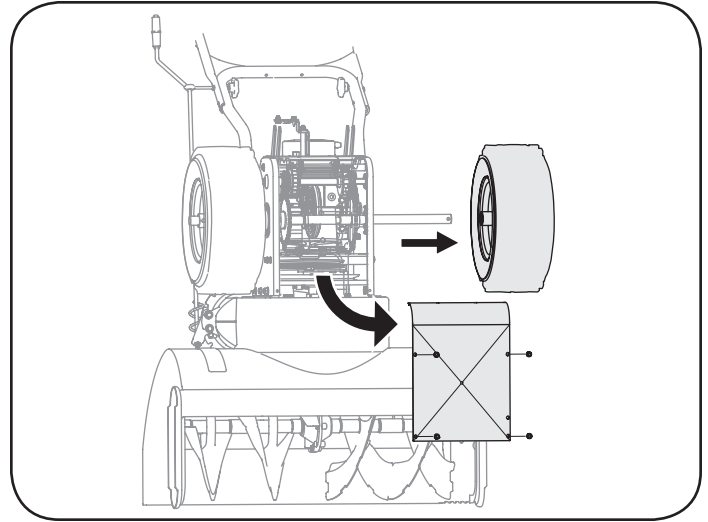

Figure 30
3. Remove screws from the frame cover underneath the snow thrower (refer to Figure 30). Remove the right wheel from the axle.